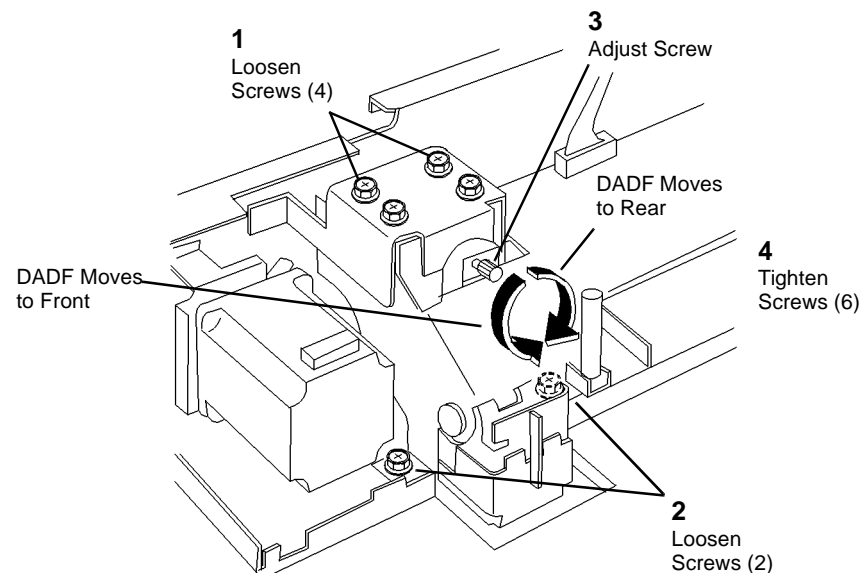

Figure 2 Adjusting DADF Parallelism
2. Adjust DADF Parallelism (Figure 2).